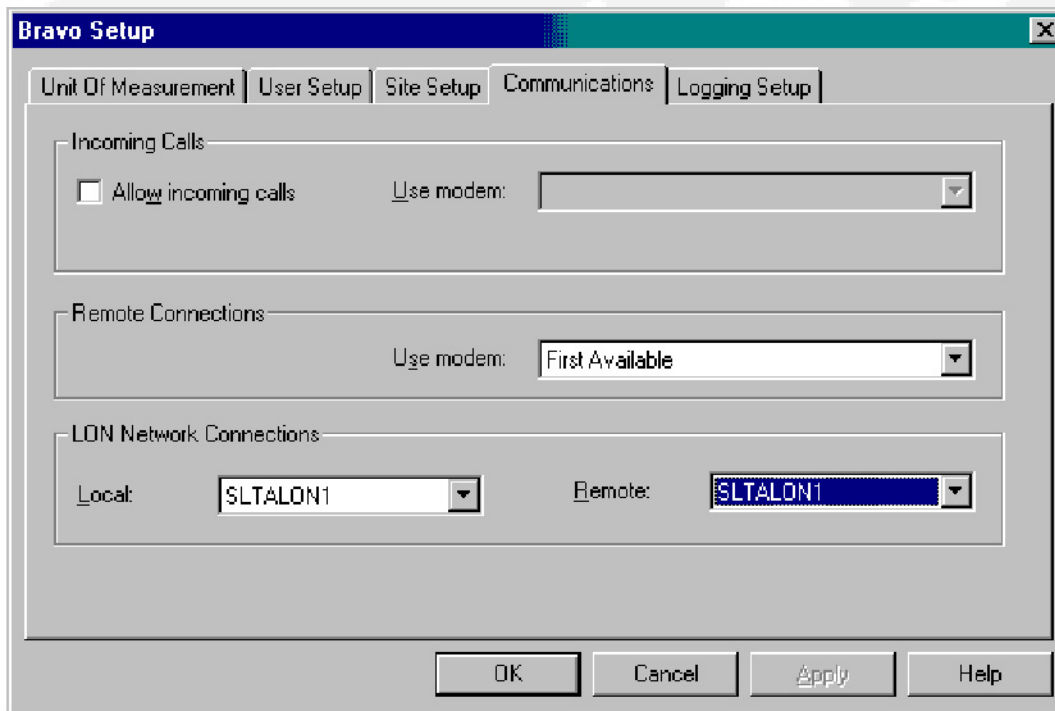

FIGURE 129. NETWORK COMMUNICATION SETUP
**Local:** Click on the drop-down arrow and select **SLTALON1** from the list (or use **PCCLON1** if using PCC-10 card). Click on the **Apply** button (Figure 129).